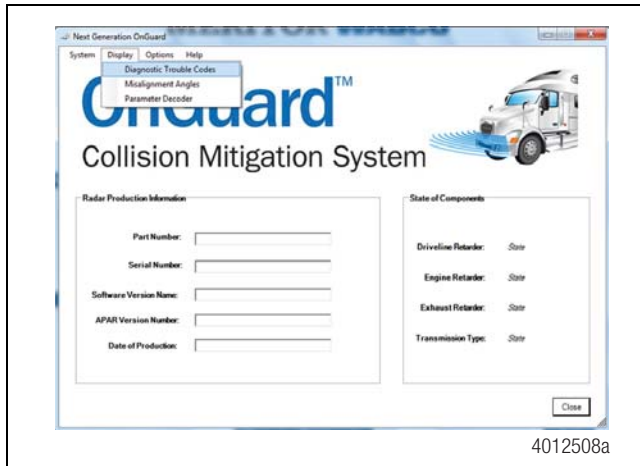

Figure 2.7
2. From the pull-down menu, select “Diagnostic Trouble Codes” to bring up the DTC information screen. Figure 2.7.